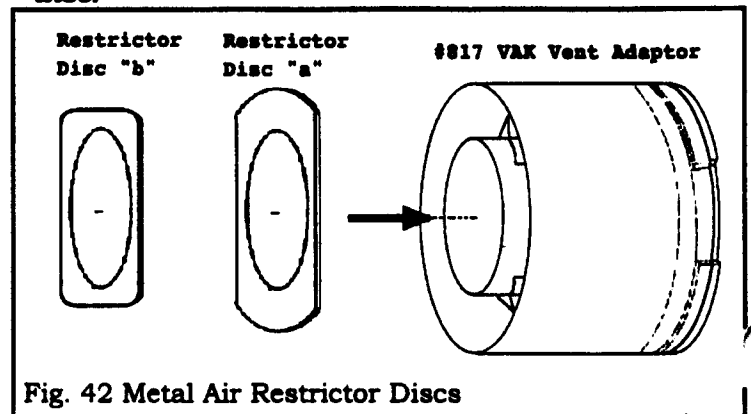

Fig. 42 Metal Air Restrictor Discs
9.2.1.2 On Natural gas appliances, insert the square metal restrictor (Fig. 19 type "b") into the vent adapter, before fitting the vent adapter (817VAK) to the appliance. The disc is supplied with kit #819ARK. (fig.42)